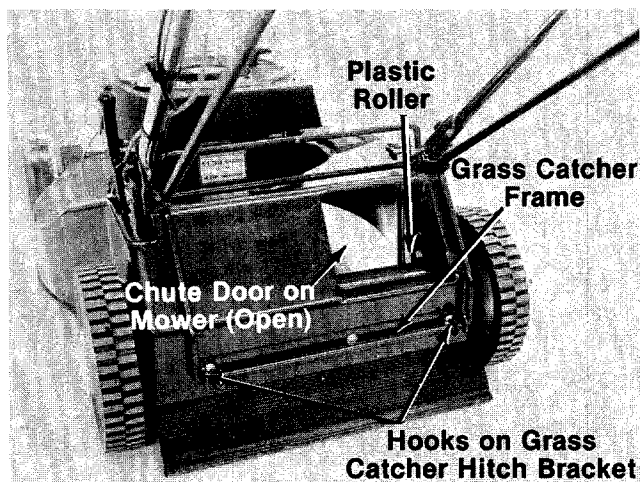

FIGURE 17.
1. Attach the grass catcher frame to grass catcher hitch bracket on rear of the mower by hooking grass catcher into hooks on grass catcher hitch bracket. See figure 17.
2. Lift the rear of grass catcher up. The roller on the grass catcher will push the chute door on the mower open. See figure 17.
Figure 17 is shown with the chute door open for photo clarity only.